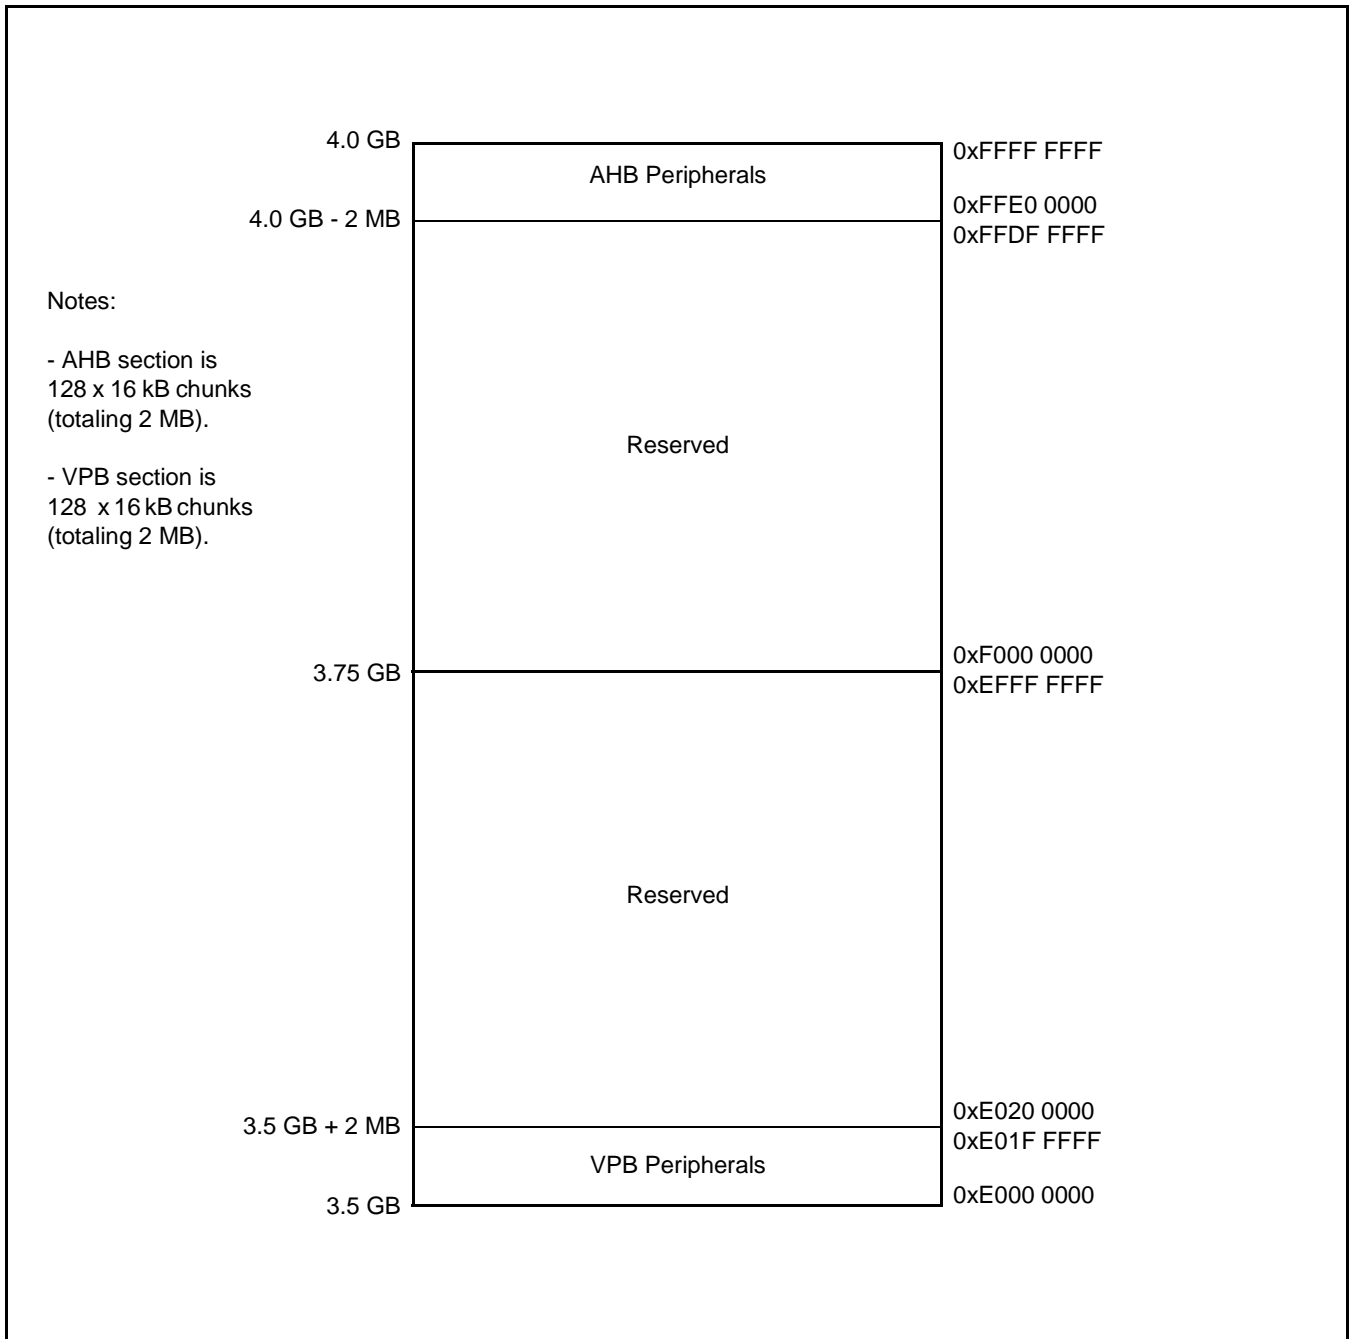

Figure 3: Peripheral Memory Map
Figures 3 through 5 show different views of the peripheral address space. Both the AHB and VPB peripheral areas are 2 megabyte spaces which are divided up into 128 peripherals. Each peripheral space is 16 kilobytes in size. This allows simplifying the address decoding for each peripheral. All peripheral register addresses are word aligned (to 32-bit boundaries) regardless of their size. This eliminates the need for byte lane mapping hardware that would be required to allow byte (8-bit) or half-word (16-bit) accesses to occur at smaller boundaries. A implication of this is that word and half-word registers must be accessed all at once. For example, it is not possible to read or write the upper byte of a word register separately.
- Reserved regions of the AHB and VPB spaces. See Figure 3.